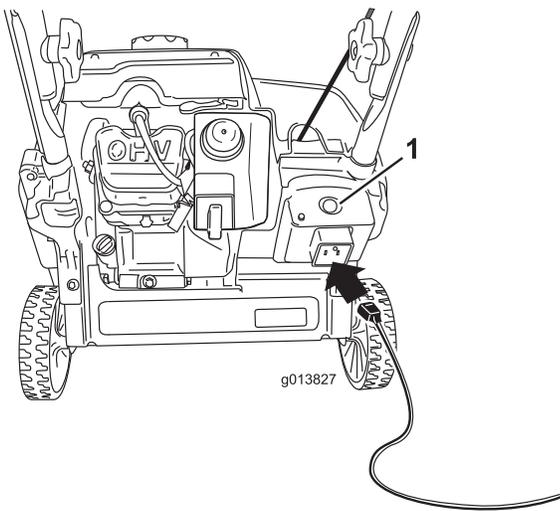
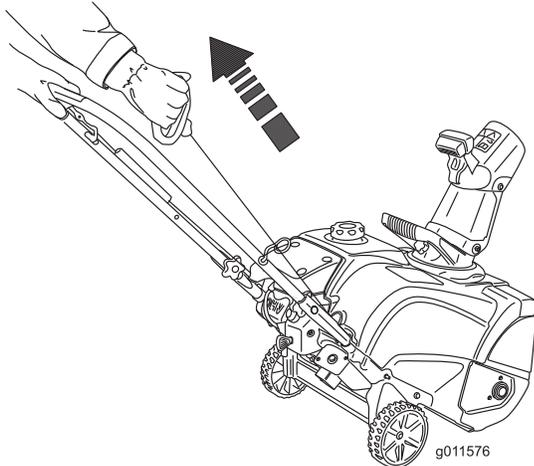

Figure 14
Figure 15
4. Connect an extension cord to a power source and the machine, and push the electric-start button (model 38473 only) (Figure 14), or pull the recoil-start handle (Figure 15).